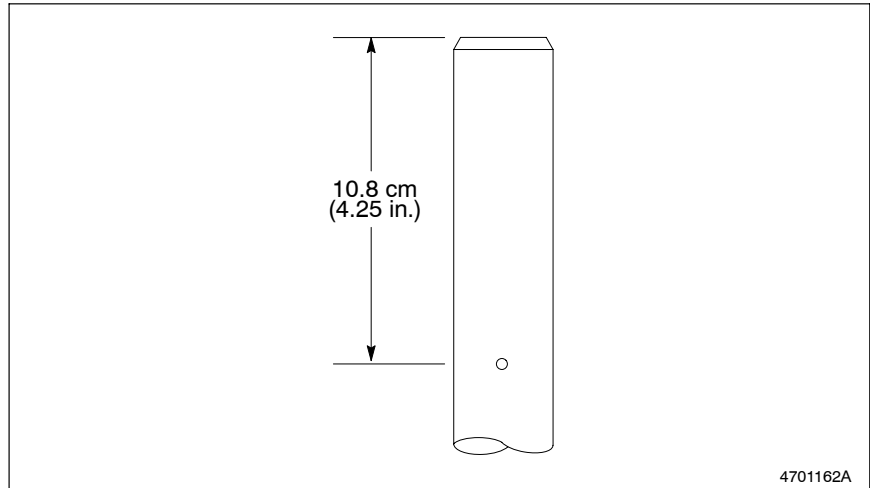

Fig. 7-46 Air Cylinder Shaft Orientation
8. See Figure 7-46. Orient the air cylinder shaft with the spanner hole at the top. The spanner hole is 10.8 cm (4.25 in.) from the top of the shaft.